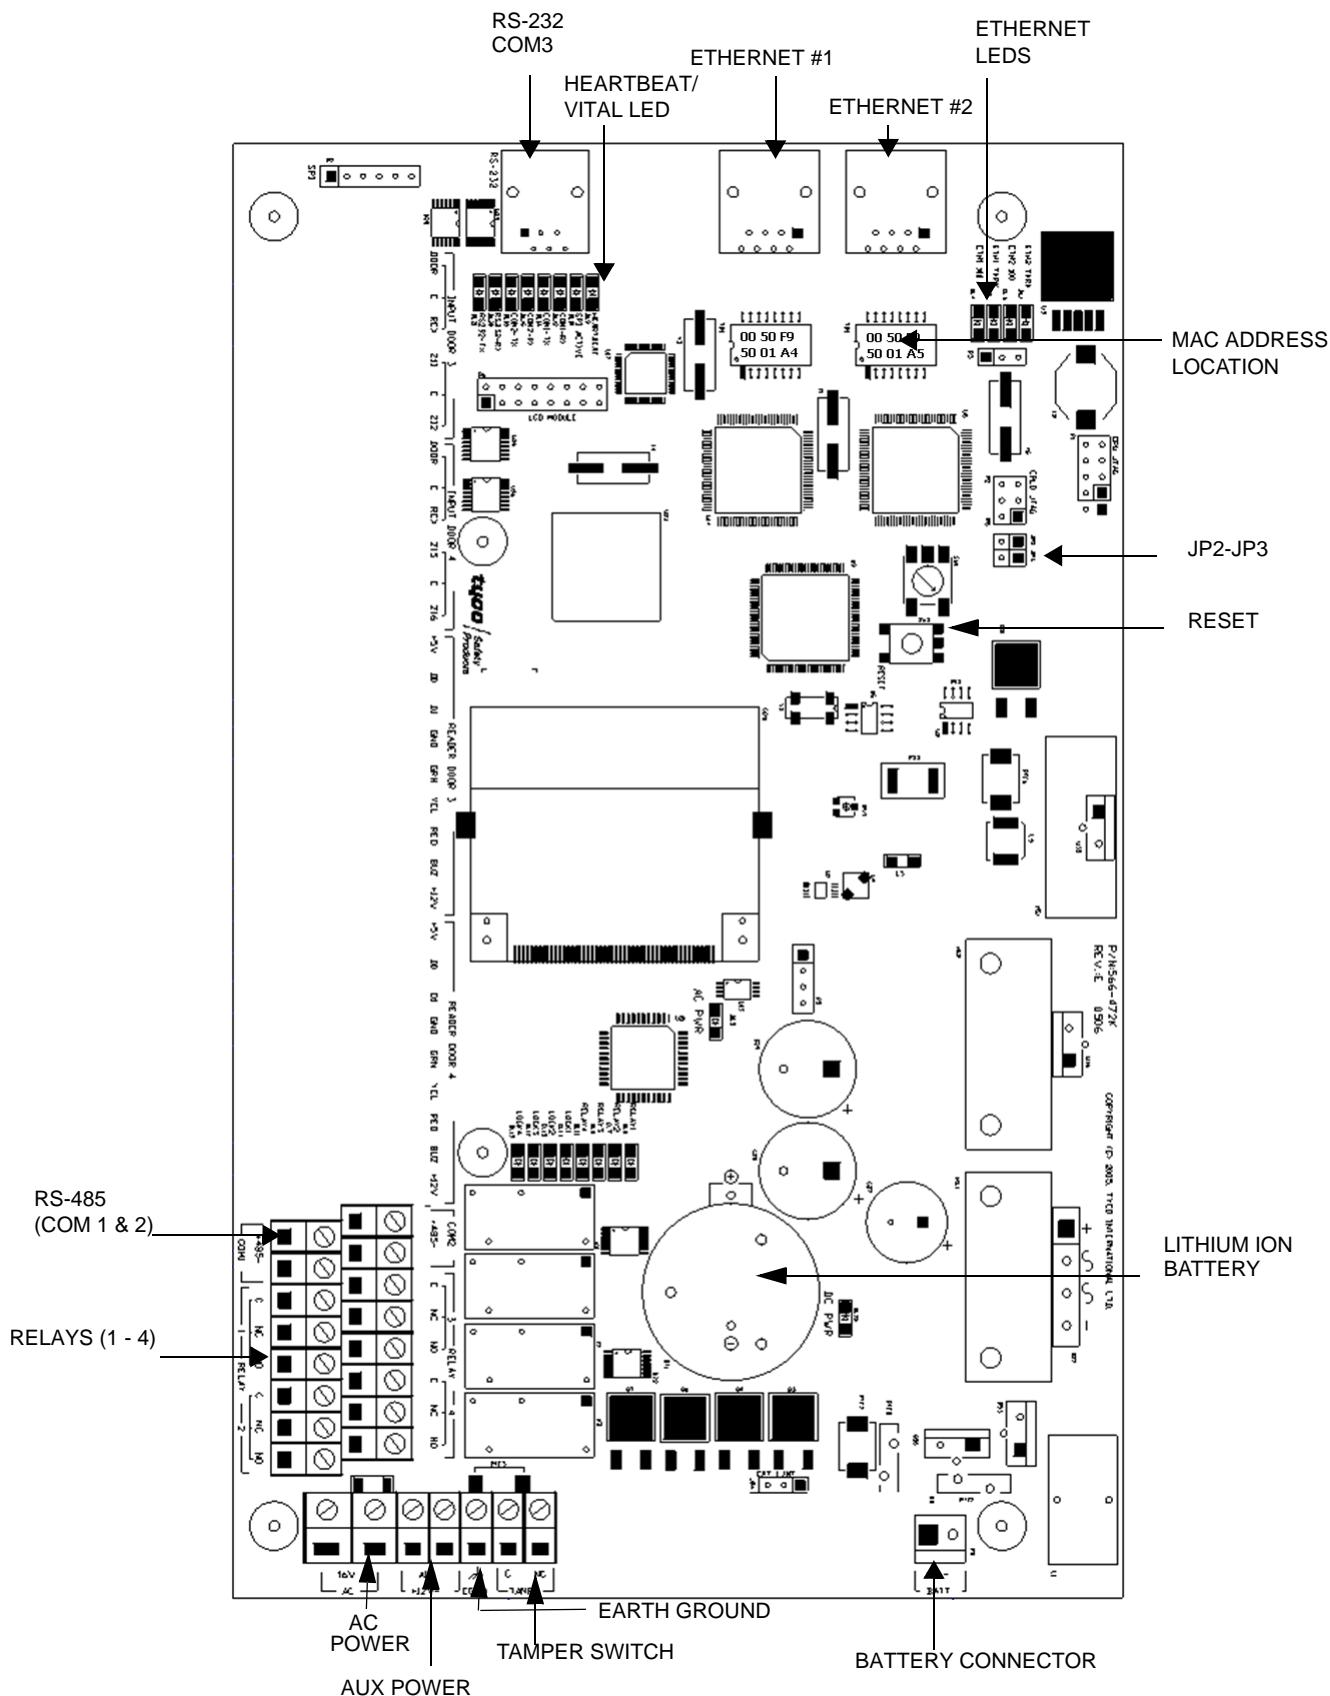

Figure 25 KT-NCC Printed Circuit Board
- The MAC Address of the KT-NCC is already configured. The MAC address is found on the top right of the KT-NCC circuit, under Ethernet Port #1, see Figure 25 on Page 37.
**Note:** The MAC address can be found on the KT-NCC board, underneath the Ethernet #1 port. It is a 12-digit hexadecimal code, with each two digits separated by a dash (i.e. xx-xx-xx-xx-xx). Refer to Figure 25 on Page 37 to locate the MAC address on the KT-NCC board.